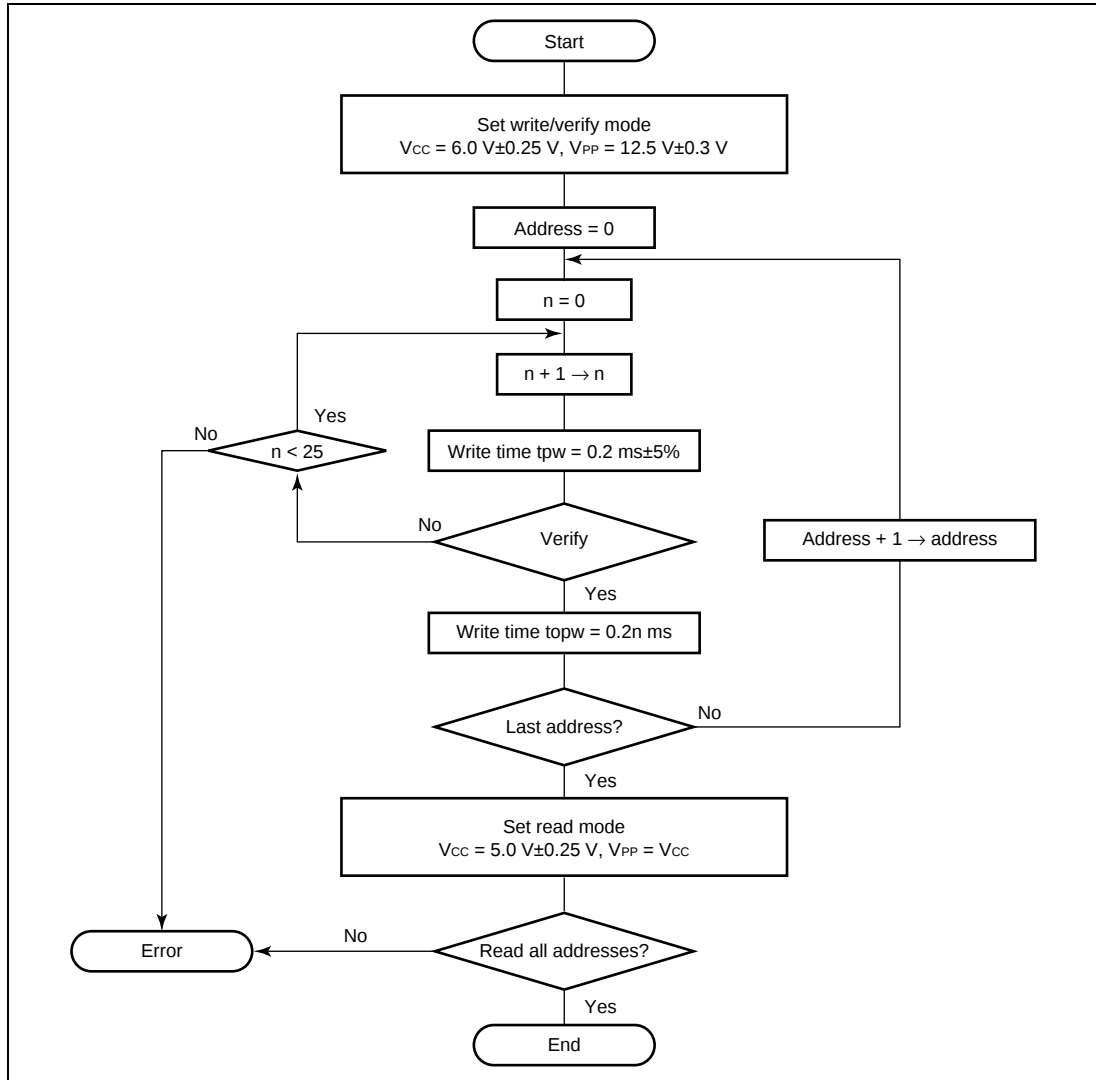

Figure 6.4 High-Speed, High-Reliability Programming Flowchart
The basic flow of this high-speed, high-reliability programming method is shown in figure 6.4.
3. t_{OPW} is defined by the value given in figure 6.4, High-Speed, High-Reliability Programming Flow Chart.
Note: * toPW is defined by the value shown in figure 6.4, High-Speed, High-Reliability Programming Flowchart.